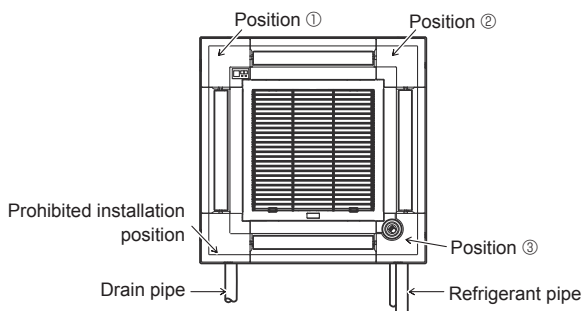

Fig. 9-11
The signal receiver corner panel can not be installed on the drain pipe side for the main unit. (Refer to Fig. 9-11)
- The i-see Sensor corner panel should be fixed onto the grille (①) with screw (③).
- * If the position of the i-see Sensor was changed from default position (position ①) to the other position, change the function settings. (Refer to page 12 and Fig. 9-11)
- The i-see Sensor corner panel can not be installed on the drain pipe side for the main unit. (Refer to Fig. 9-11)